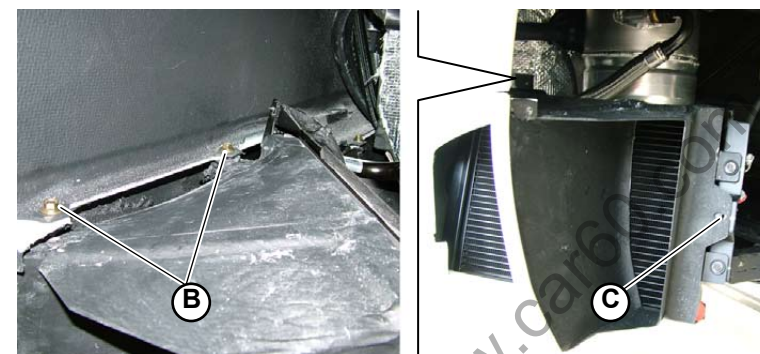

Fig.2
2. Unscrew the 2 screws (B-Fig.2) securing the conveyor to the side member, using the free space created by the rear element of the front wheel arch.
3. Unscrew the screw (C-Fig.2) securing the conveyor to the oil radiator, using the free space created by the front element of the rear wheel arch.